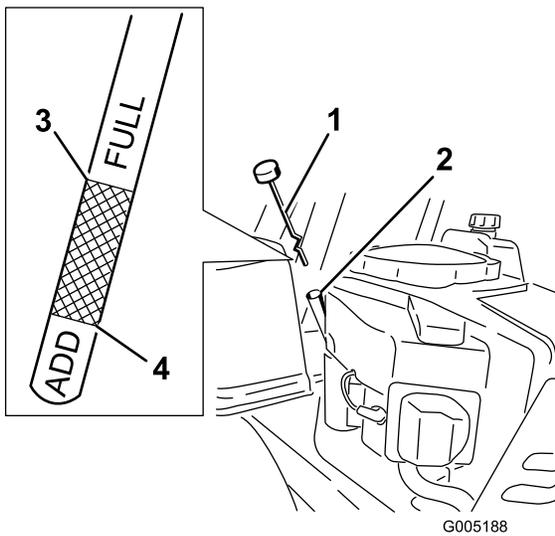

Figure 28
5. Pull the dipstick out and check the oil level. (Figure 28).
7. Remove the oil fill cap/dipstick (Figure 28).
13. Slowly pour approximately 80% of the specified oil into the filler tube (Figure 28).
14. Install the oil fill cap/dipstick (Figure 28).
15. Check the oil level (Figure 28); refer to Checking the Oil Level.
17. Install the oil fill cap/dipstick and screw tight (Figure 28).